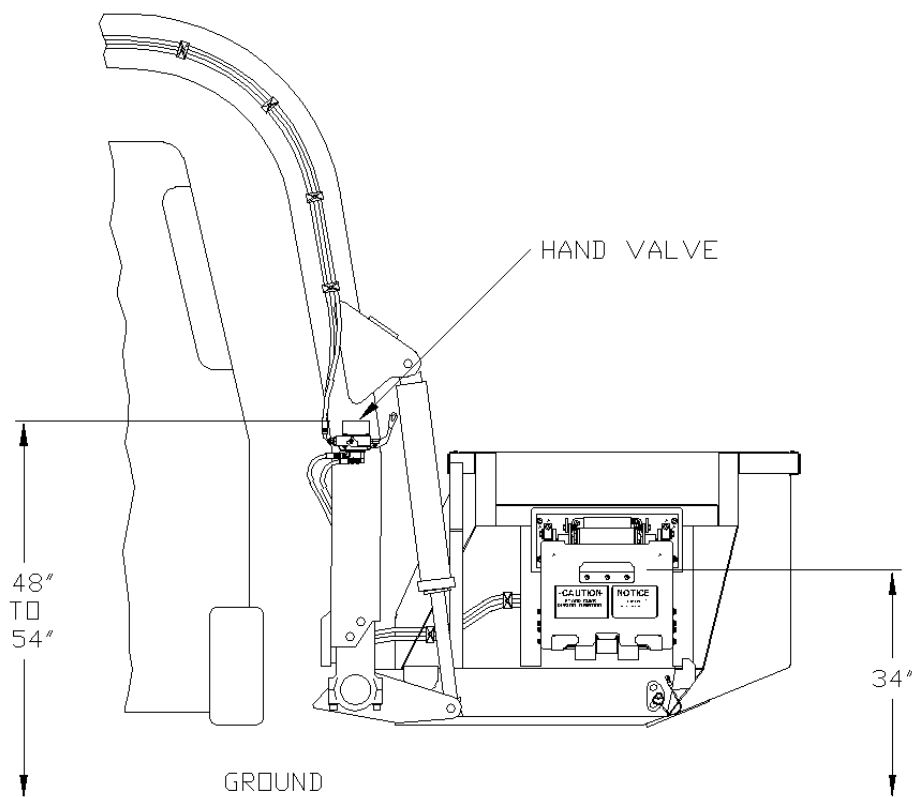

figure I-1
1. Place the **Bayne** front load box and lifter assembly on the ground in front of the truck fork arms. Insert the fork arms into the fork pockets on each side of the box as shown in figure I-1. Insert the locking pins either under or thru each fork to lock the box to the truck fork arms. **DO NOT DUMP THE BOX INTO THE HOPPER UNTIL THE HYDRAULICS HAS BEEN CONNECTED AND ALL AIR IS PURGED FROM THE SYSTEM.**
2. Adjust the ride height of the front load box to obtain a distance of approximately 34" from the pocket of the lift saddle to the ground as shown in figure I-1.
1. Choose and mark an acceptable location on the truck approximately 48” to 54” from the ground to mount the hand valve assembly as shown in figure I-1.